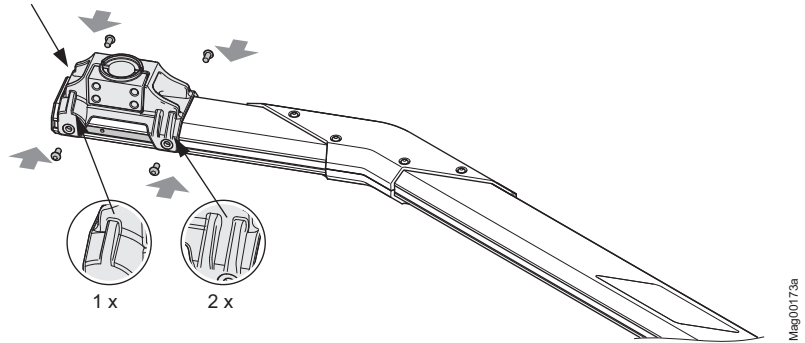

Fig. 27: Installing standard Vario-flange
18. Attach the flange on the other side of the barrier arm. Observe position of the two slot nuts and the additional sheet. The shorter protrusion of the flange must point towards the barrier arm end. → See page 70, Fig. 27.